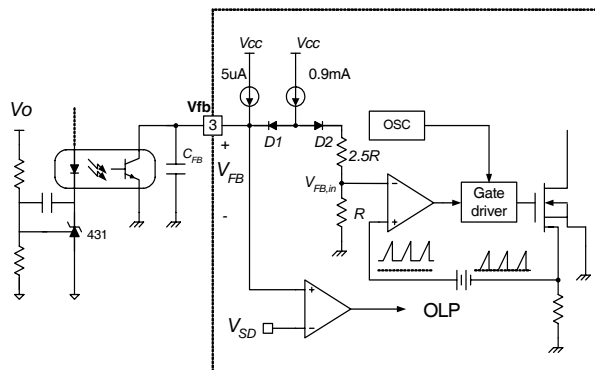

Figure 5. Pulse Width Modulation (PWM) Circuit
2. Feedback Control: The 700V FPS series employs current mode control, as shown in Figure 5. An optocoupler (such as the H11A817A) and shunt regulator (such as the KA431) are typically used to implement the feedback network. Comparing the feedback voltage with the voltage across the Rsense resistor of Sense FET plus an offset voltage makes it possible to control the switching duty cycle. When the KA431 reference pin voltage exceeds the internal reference voltage of 2.5V, the optocoupler LED current increases, the feedback voltage V_{fb} is pulled down and thereby reduces the duty cycle. This typically happens when the input voltage increases or the output load decreases.
4.3 Over Voltage Protection (OVP): In the event of a malfunction in the secondary side feedback circuit, or an open feedback loop caused by a soldering defect, the current through the optocoupler transistor becomes almost zero (refer to Figure 5). Then, V_{FB} climbs up in a similar manner to the overload situation, forcing the preset maximum current to be supplied to the SMPS until the overload protection is activated. Because excess energy is provided to the output, the output voltage may exceed the rated voltage before the overload protection is activated, resulting in the breakdown of the devices in the secondary side. In order to prevent this situation, an Over Voltage Protection (OVP) circuit is employed. In general, V_{CC} is proportional to the output voltage and the FPS uses V_{CC} instead of directly monitoring the output voltage. If V_{CC} exceeds 19V, OVP circuit is activated resulting in termination of the switching operation. In order to avoid undesired activation of OVP during normal operation, V_{CC} should be designed to be below 19V.